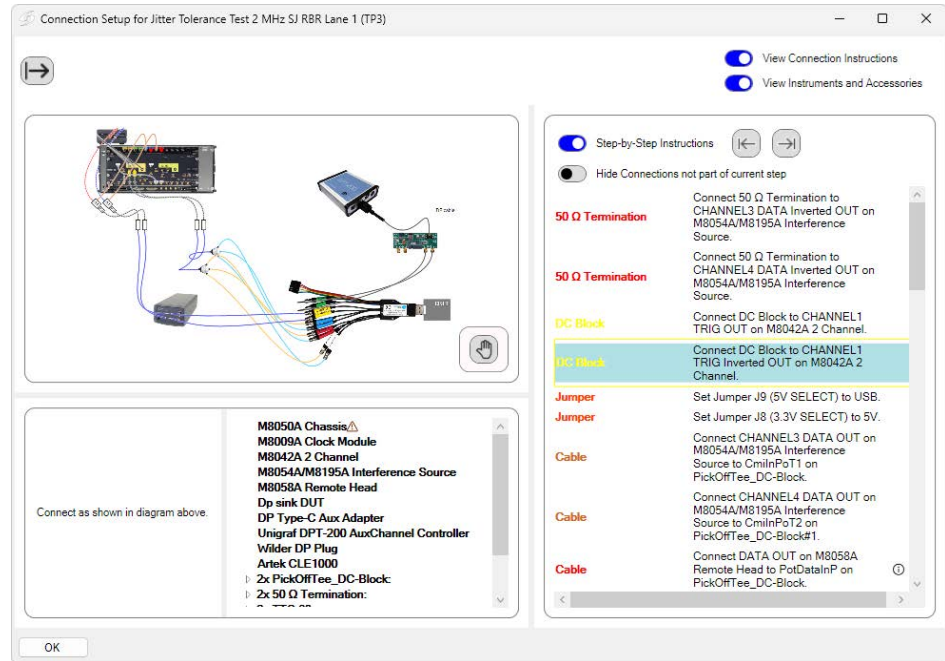

Figure 5-16 Example connection diagram dialog – all panes
- 3 Instruments and Accessories:** Toggle to ‘on’ to view the list of required instruments and accessories (Figure 5-16).
In the Instruments and Accessories view, a lower pane opens that contains a list of instruments and accessories. This can also be viewed in combination with the Connection Instructions pane, as in Figure 5-16.